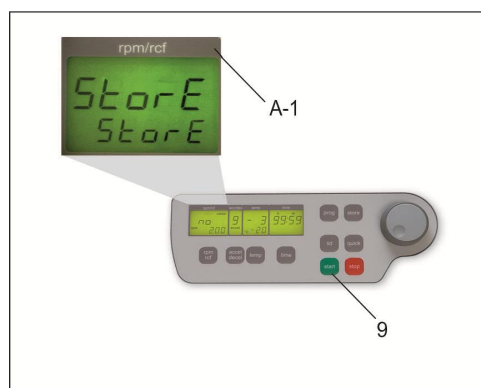

Figure 4
- All changed settings must be confirmed by the key „start“ (9). As an optical confirmation appears the word „store“ in the display „rpm/rcf“ (A-1) - Only then the pre-selections are valid! (see figure 4)